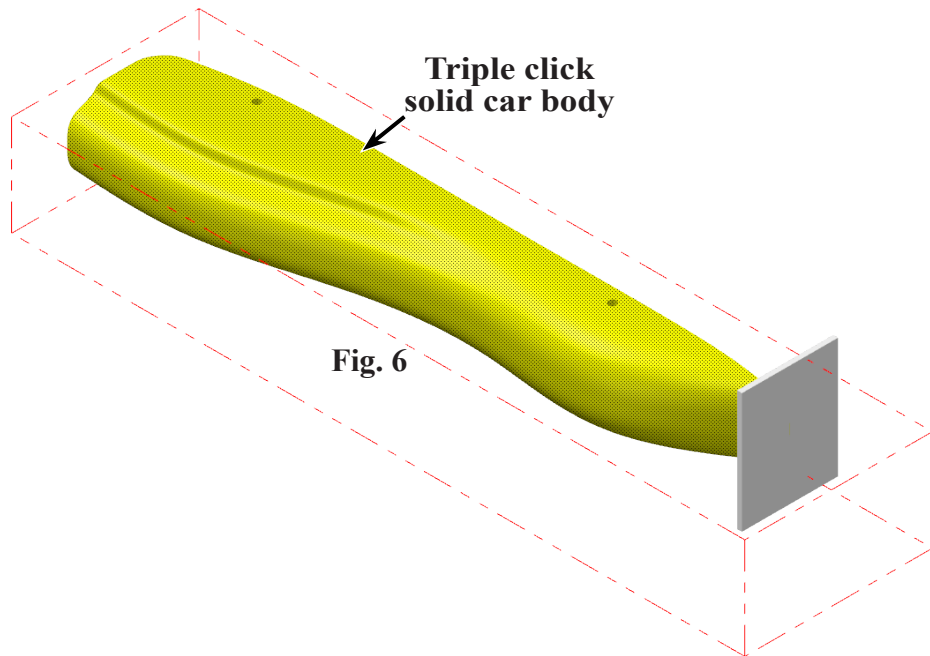

Fig. 6
Step 3. **Triple click the solid car body** to select as machine geometry and click **End Selection** (ENTER), Fig 6.